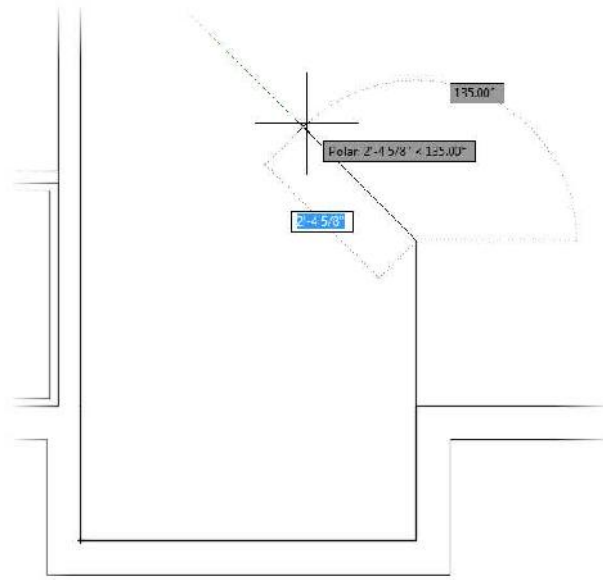

FIGURE 5.71: Use Polar Tracking and direct input to draw the diagonal line.
5. Place the cursor above and to the left of the current last point, until the Polar Snap tooltip reads 135°. Then enter **3'6-7/8"↵** (**1089↵**) to draw the diagonal line (see Figure 5.71).